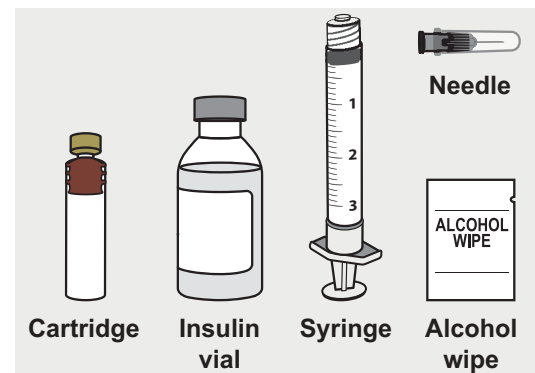

Figure 41
- a. To fill the iLet Cartridge with insulin, gather the following supplies (see Figure 41).